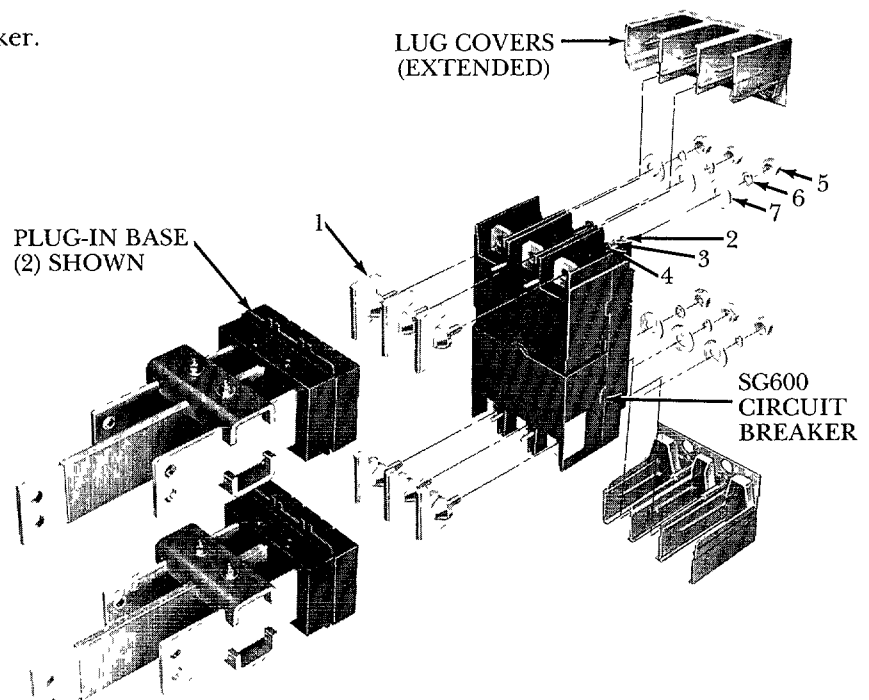

Figure 3.
2. **IMPORTANT.** Apply grease (provided in hardware kit) to internal contacts of both line and load Plug-In Bases. Mount male plugs (1) to Plug-In Base one at a time. Insertion force is 35–45 lbs. each. This procedure will guarantee proper central alignment between plugs and internal contacts while bolting base to breaker. See Figure 3 for orientation.
4. Secure SG600 breaker to line and load Plug-In Bases using four #10-32 × 3 7/8" long screws (2), lockwashers (3), and flatwashers (4). Next secure male plugs to breaker terminals using six hex nuts (5), lockwashers (6), and flatwashers (7). Torque nuts to 60 in.-lbs. See Figure 3.